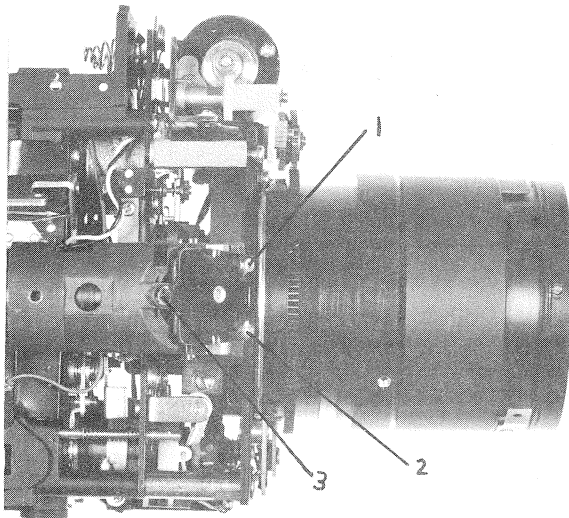

Fig. 37
- (1) Remove the finder cover.
- (2) Parallax can be adjusted horizontally by changing the angle of the mirror. The mirror angle is changed by tightening or loosening the three finder mirror screws (1, 2, and 3 in Fig. 37).
- (3) There is some change in the vertical direction when the finder mirror is adjusted. Consequently, horizontal adjustments should be performed before vertical adjustment.